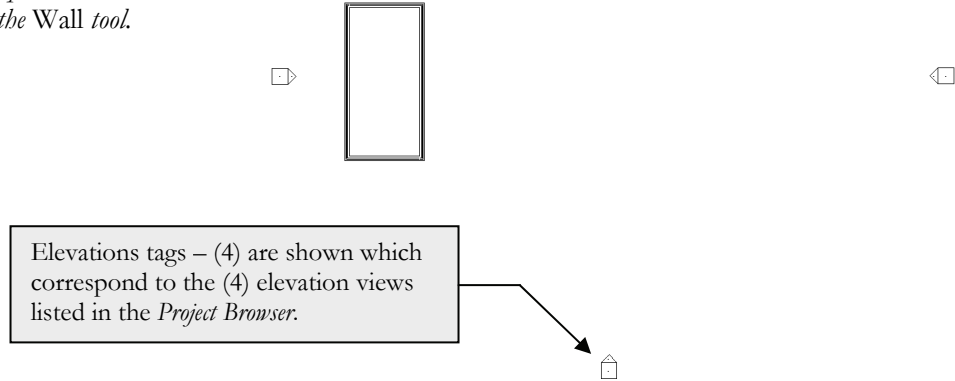

FIGURE 7-1.1 Bldg. and Elev. tags
5. Using the **Wall** tool with the wall *Type* set to “**Exterior - Brick on Mtl. Stud**,” draw a **40'-0" x 20'-0"** building (Figure 7-1.1).